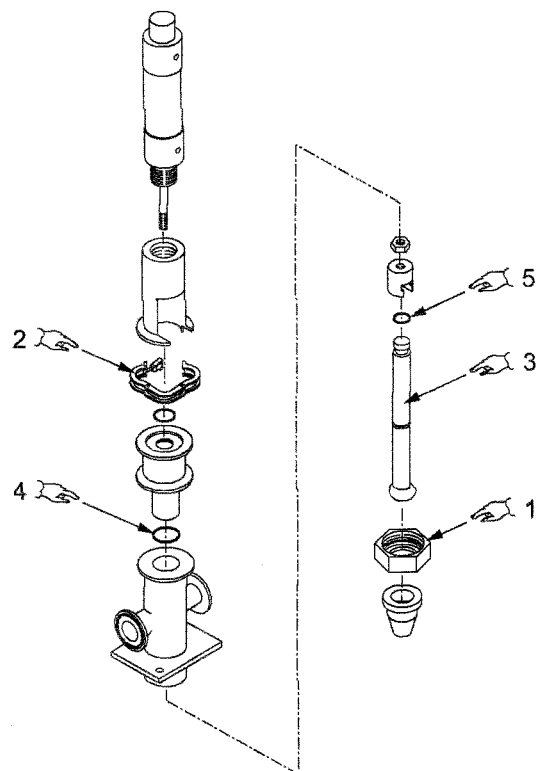

Fig. 7.2
- by unscrewing the bottom ring-nut (*Pos. 1, Fig. 7.2*);
- opening the joining clamp between the lower and upper parts (*Pos. 2, Fig. 7.2*);
- extracting the doser piston shaft (*Pos. 3, Fig. 7.2*).
With the doser dismantled, check the efficiency of the O-rings (*Pos. 4-5, Fig. 7.2*) on the stem. If worn, ice-cream will leak from the top of the doser.